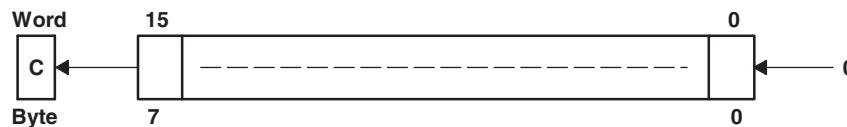

Figure 4-37. Destination Operand—Arithmetic Shift Left
Description	The destination operand is shifted left one position as shown in Figure 4-37 . The MSB is shifted into the carry bit (C) and the LSB is filled with 0. The RLA instruction acts as a signed multiplication by 2. An overflow occurs if $dst \geq 04000h$ and $dst < 0C000h$ before operation is performed; the result has changed sign.